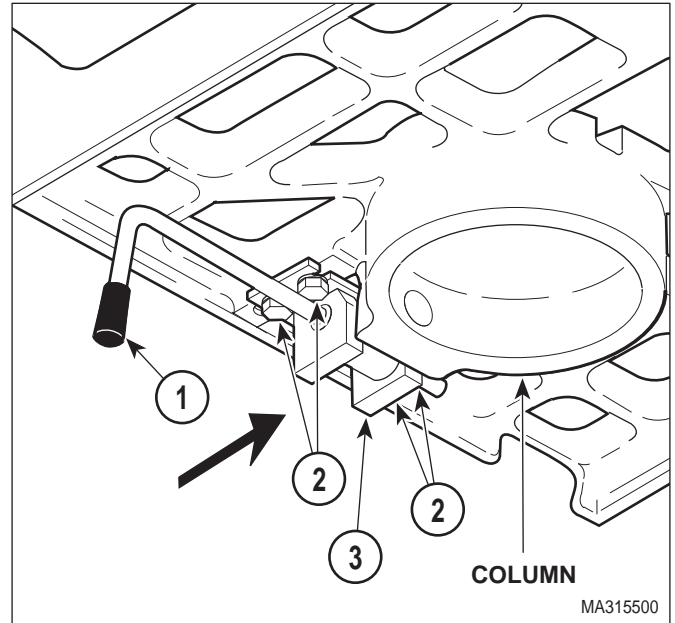

Figure 4-26. Chair Rotational Lock Adjustment
- (1) Rotate brake lever (1, Figure 4-26) to the "unlocked" position.
- (2) Loosen four bolts (2).
- (3) Push stop weldment (3) in toward column and then tighten four bolts (2).
- (4) Rotate brake lever (1) to the locked position and attempt to rotate the table top.